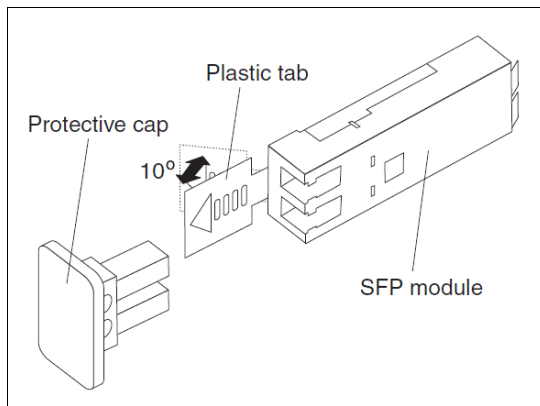

Figure 4-13 Unlocking the SFP module latch - plastic variety
- For SFP modules that contain plastic tabs, unlock the SFP module latch by pulling the plastic tab outward 10°, as shown in Figure 4-13.